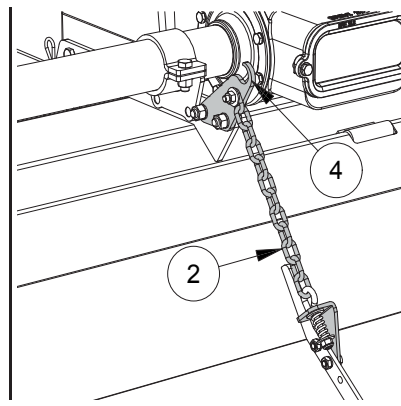

FIG. 31
To level and crumble the soil to a greater degree, the machine has a rear hood (1, "Fig. 31") positioned behind the hoes. It can be adjusted in height by means of a chain (2). It is recommended to start working with the hood in a middle position: after the first working yards, when reaching the chosen depth, secure the position of the hood by hooking the chain (2) to the support (4).